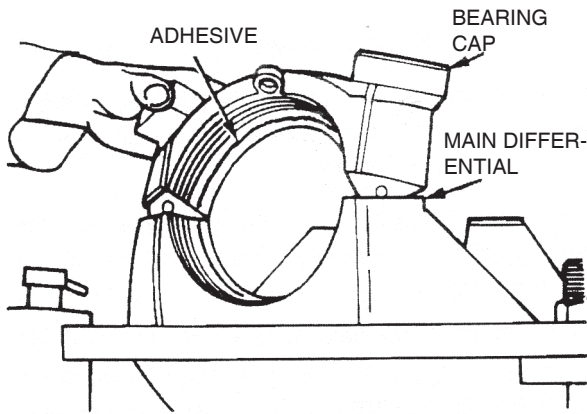

Figure 4.10
3. Apply a single continuous bead of the adhesive to the bearing bores in the differential and bearing caps. Apply the adhesive around the circumference of the smooth, ground surfaces only. Do not place the adhesive on the threaded areas. Figure 4.10.